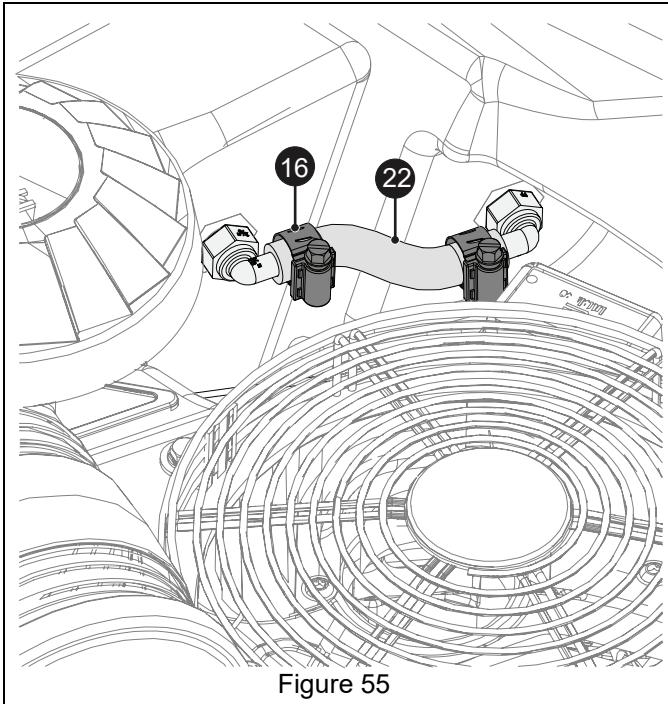

Figure 55
79. Install two 7/16" x 13/16" hose clamps (item 16) on 3/8" x 3 1/2" hose (item 22) and connect front and rear brine tanks. Tighten hose clamps. See Figure 55.